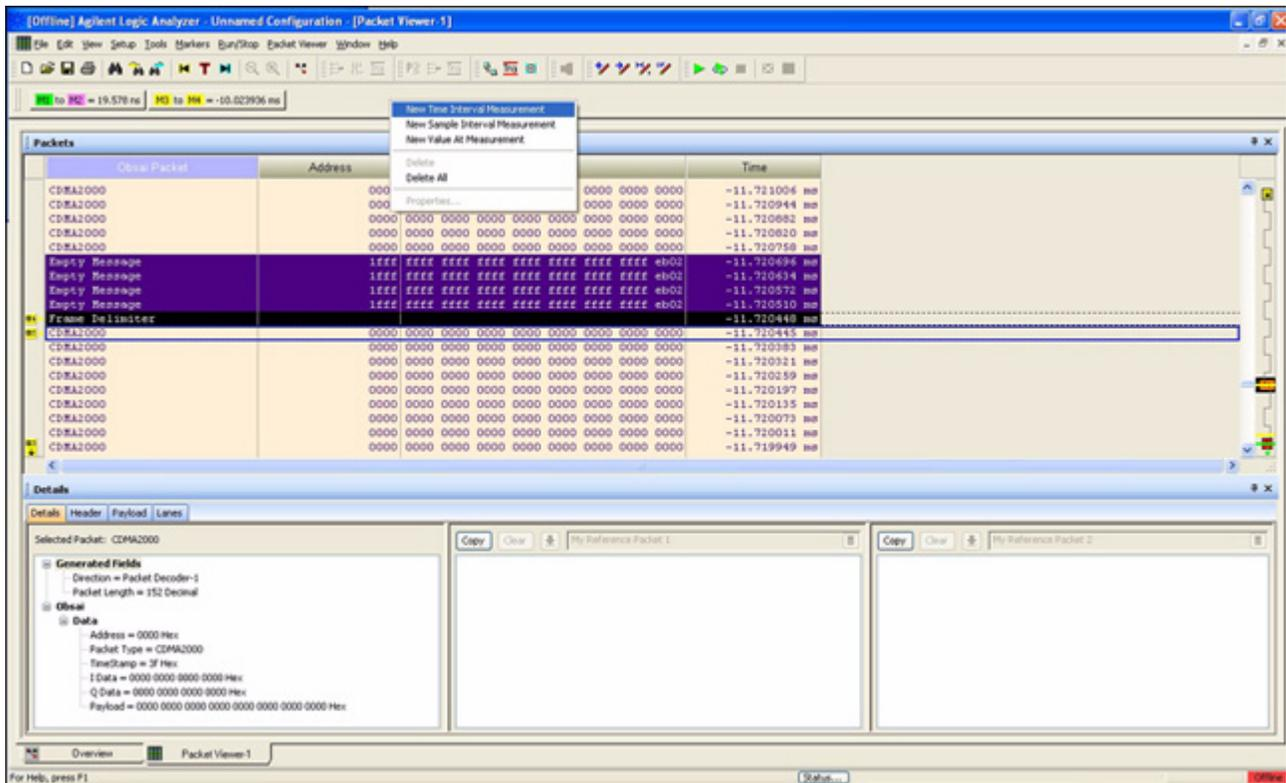

Figure 56 New Time Interval
- 1 Right click on the measurement bar and select **New Time Interval Measurement** as shown in the Figure 56.